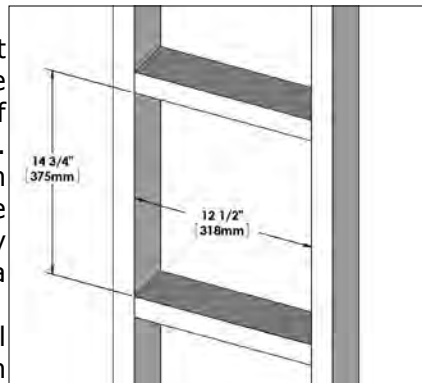
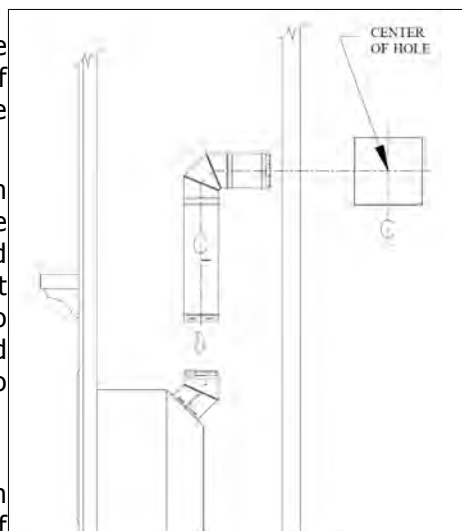

Figure 28: Thimble Framing
Figure 30: Horizontal Venting and Cut Away.
1. Using eight (8) T-20 screws provided, install the drywall supports right and left as well as the heat shield in the middle, as shown in Figure 28.
- Step 3.** With the adaptor and pipe attached to the fireplace, slide the fireplace into its correct location, and mark the wall for a rectangular hole of the appropriate size. Use 12.5"x14.75" (318x375mm) hole for 6" x 8-5/8" pipe, Figure 28. The center of the hole should line up with the center line of the horizontal pipe, as shown in Figure 30. Cut and frame the hole in the exterior wall where the vent will be terminated. If the wall being penetrated is constructed of non-combustible material, i.e. masonry block or concrete, a hole with zero clearance to the pipe is acceptable.